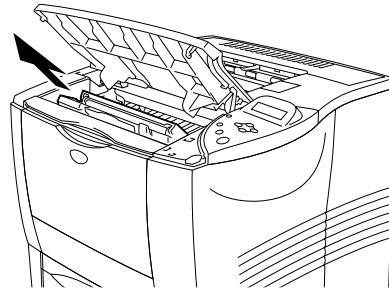

Fig. 5-1
- (1) Open the top cover of the printer.
- (2) Pull out the drum unit assembly (drum unit with the toner cartridge). (Fig.5-1)